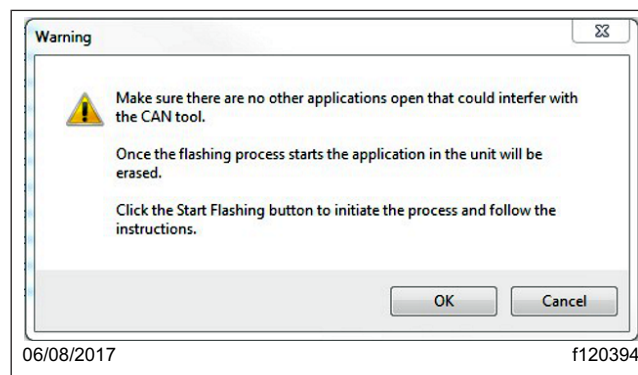
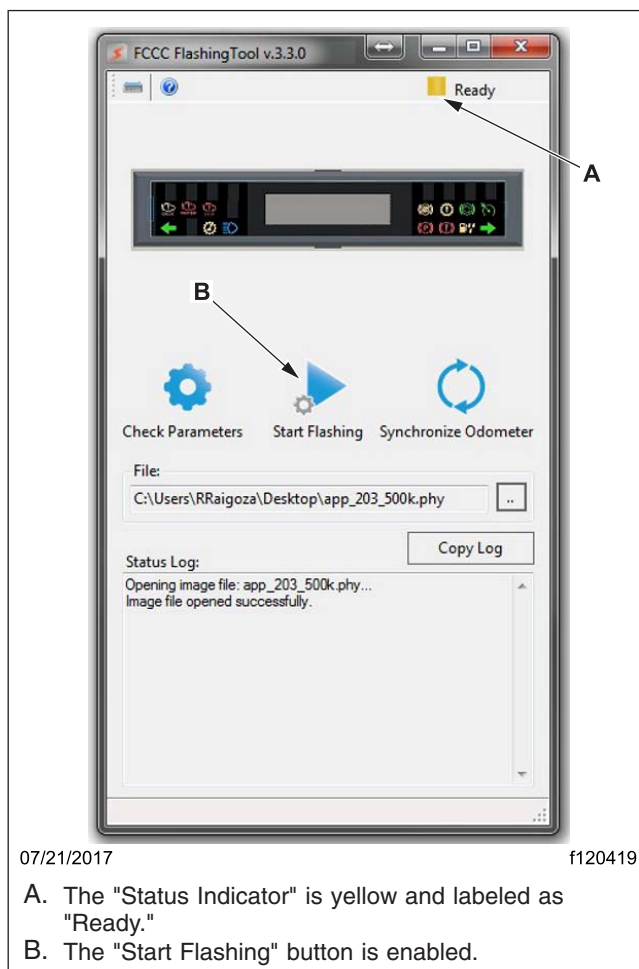

Fig. 11, Warning Message
Fig. 12, Select File Screen, Start Flashing Button is Enabled
21. Using the "Select File" button, select the file to download (i.e. the *.phy file). Once the file is selected, a warning message will appear as shown in **Fig. 11**. Select "OK." The status indicator at the top-right of the window will be yellow and labeled as "Ready," and the "Start Flashing" button will be enabled. See **Fig. 12**.